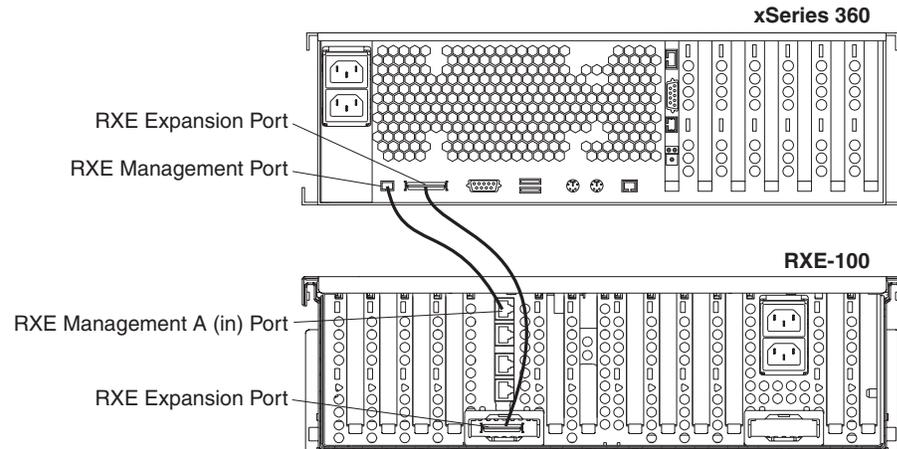

Figure 27. Server controlling one system in the enclosure
4. If the enclosure has only system A installed, use Figure 27 on page 48 and complete the following steps:
Figure 27 shows the connections between one server and an enclosure with only the A system installed. The server PCI expansion Port is connected to the enclosure DMC A in Port.